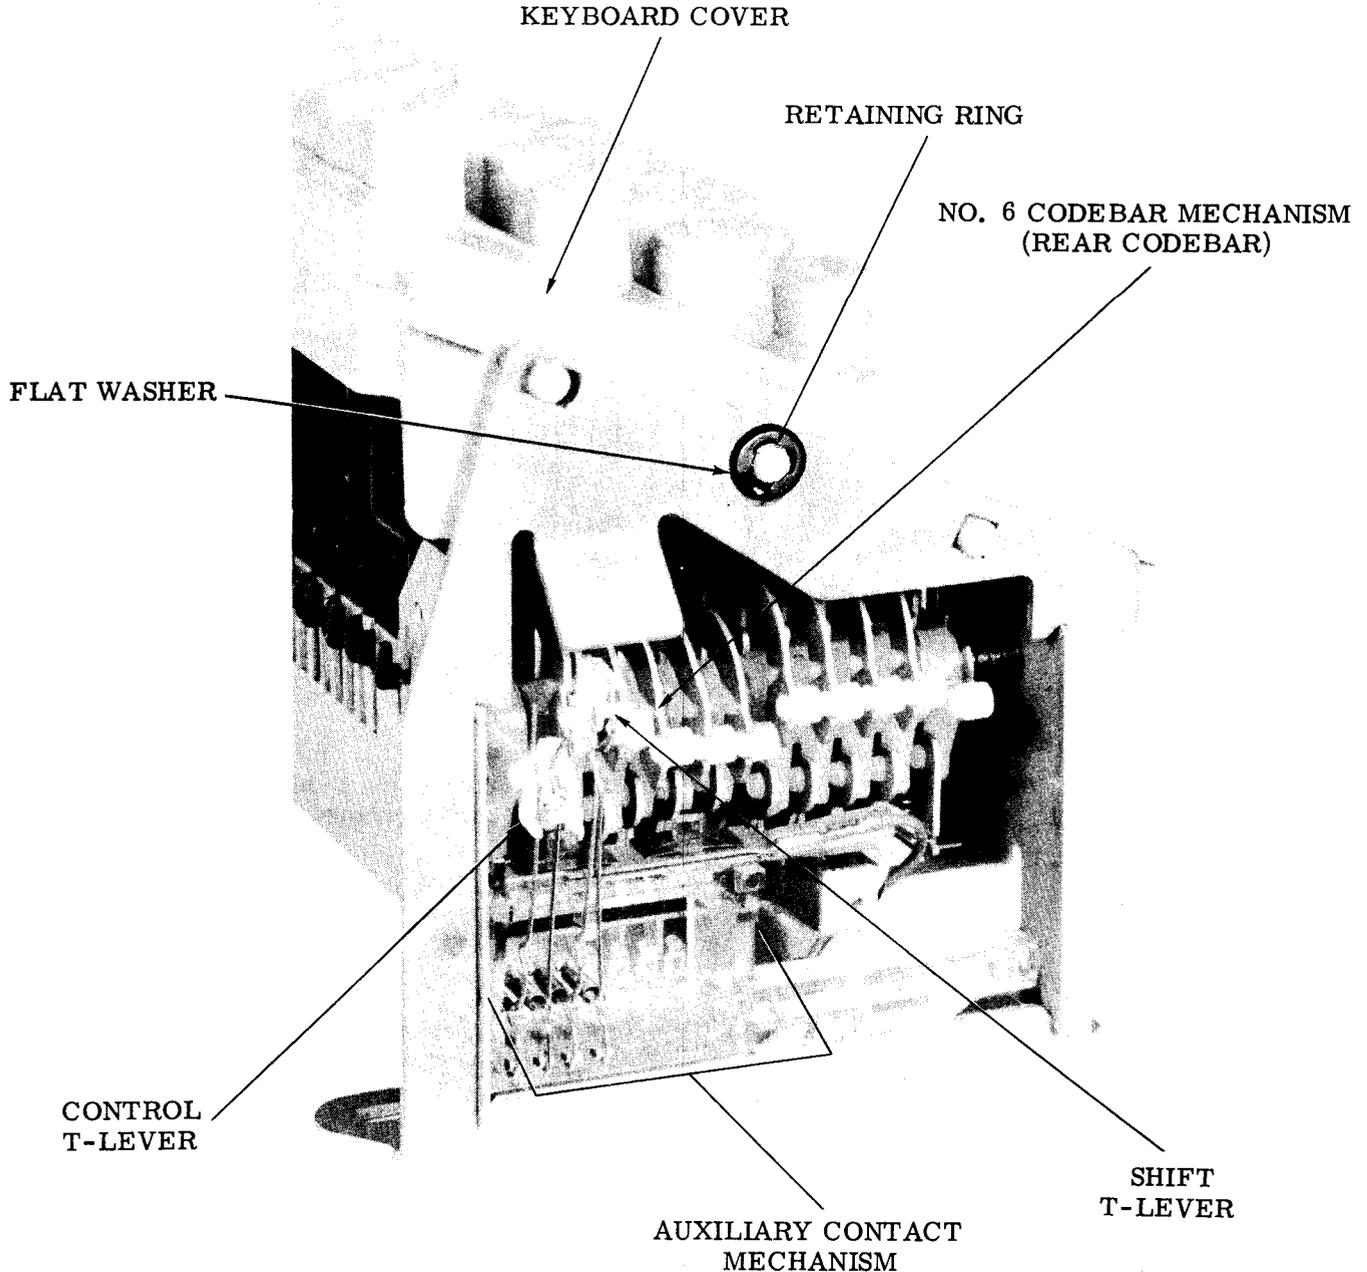

Figure 2 - Auxiliary Contact Mechanism
2.01 To remove the keyboard cover (Figure 2), proceed as follows.
- 2.06 To remove auxiliary contact mechanism (Figure 2), proceed as follows.